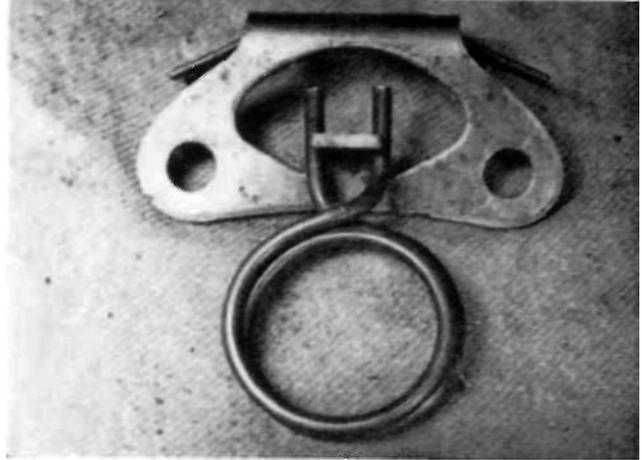

FIG. 48
**Gear pedal does not centralise.** The footchange pedal spring is broken. Replace with improved cross over type 043453. Separate the legs as shown in Fig. 48 when fitting.